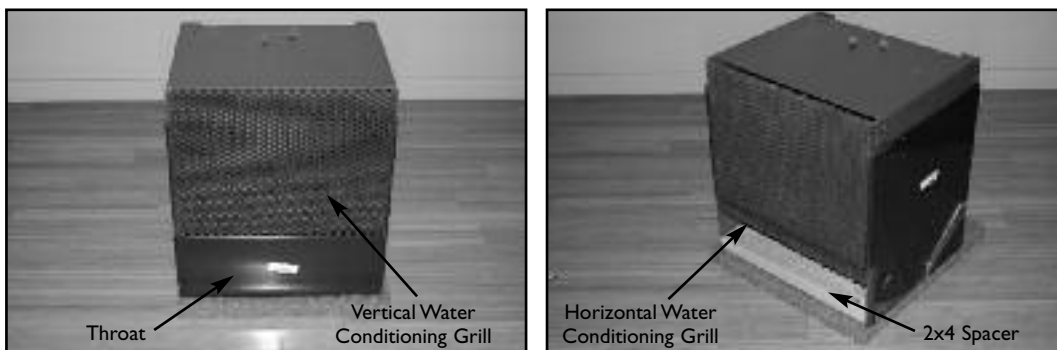

Fig. 9.3
- 9.4** Remove the throat from the upper housing. There are two screws on each side of the throat. Pull the throat off of the housing and set it aside. Pull the vertical water-conditioning grill up and out of the housing. Pull the horizontal grill out of its track and remove from the housing. Make sure to remove and discard the wood 2x4 spacer from the bottom of the housing before proceeding (Fig 9.3).